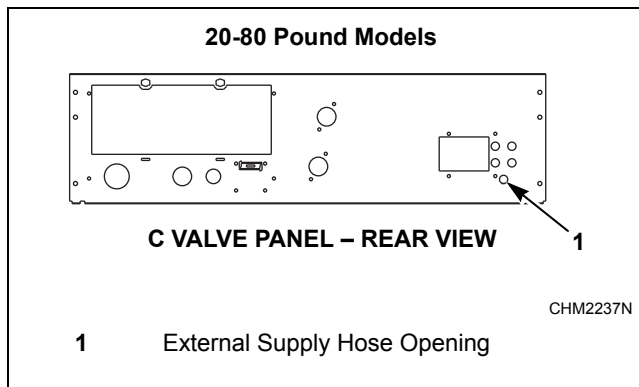

Figure 29
1. Facing the rear of the machine, locate the five 3/8 inch supply hose connections found on the right-hand side of the valve panel. Refer to *Figure 29*.